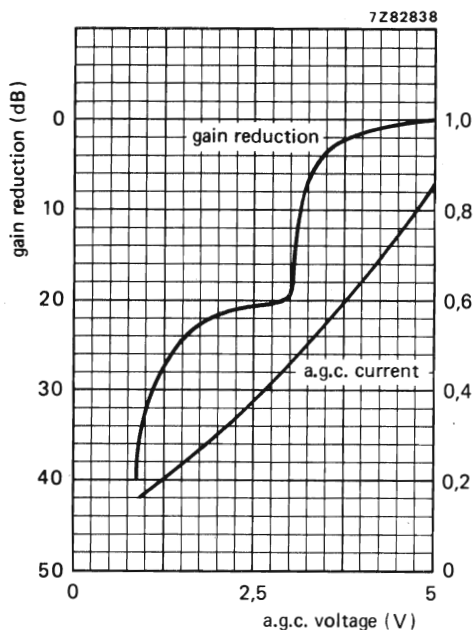

Fig. 4.
A.G.C. voltage (Fig. 4), at nominal gain	$+5,0 \pm 0,2\text{ V}$
A.G.C. current (Fig. 4)